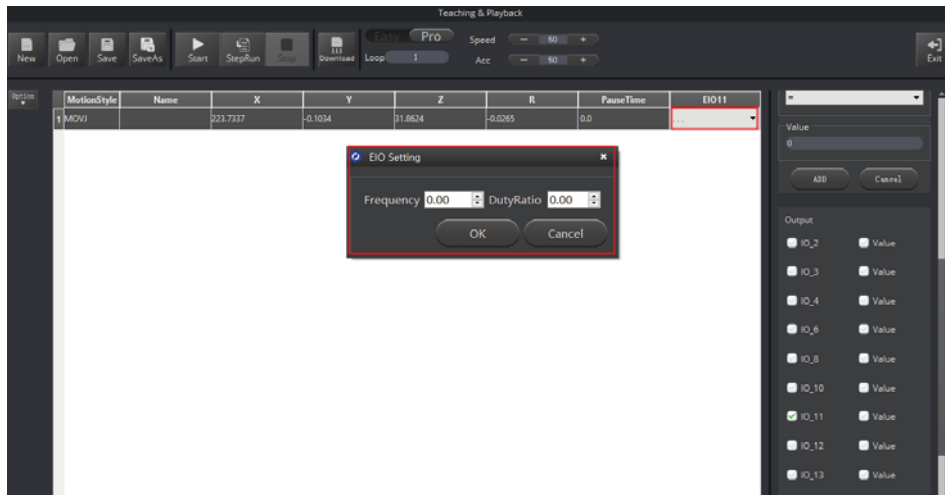

Figure 5.196 EIO setting
Step 3 Double-click **EIO11** cell and select **...** from the drop-down list. The **EIO Setting** page is displayed, as shown in Figure 5.196.